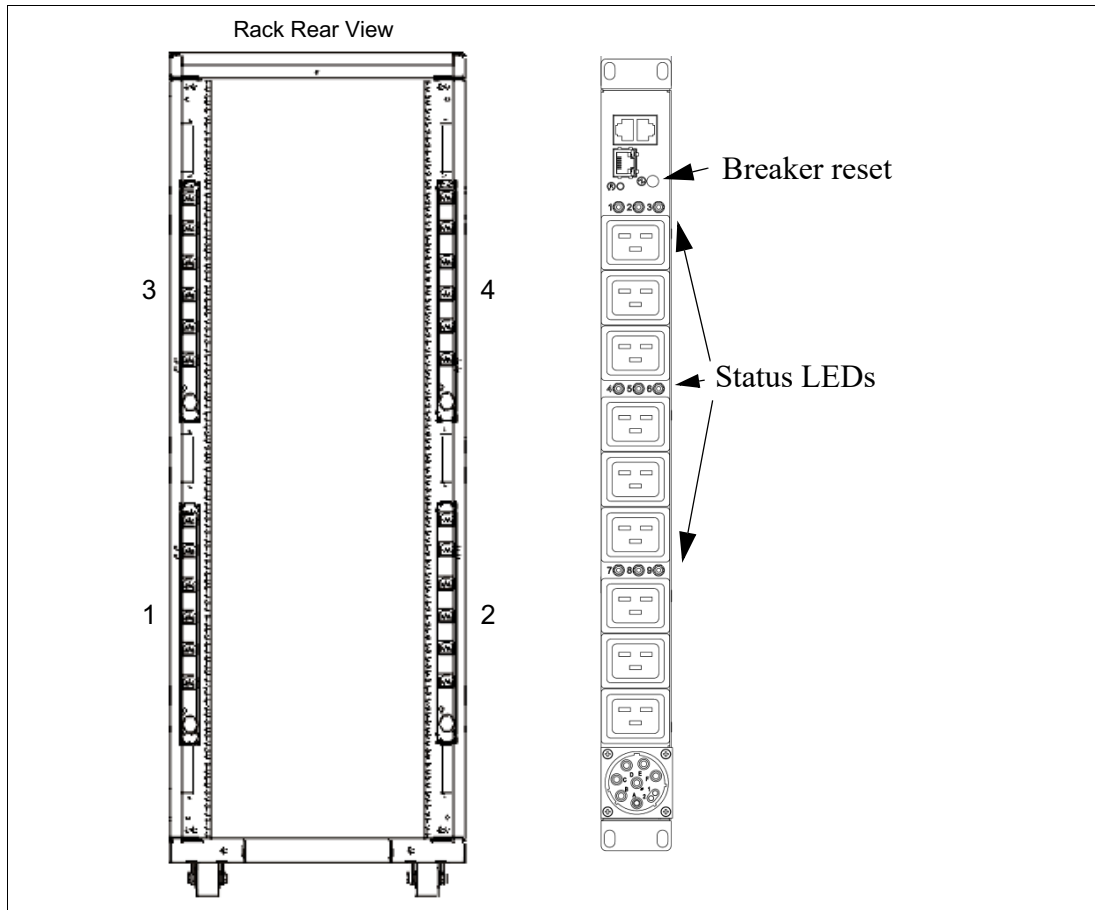

Figure 1-14 Power distribution unit placement and view
- ▶ Up to four PDUs can be mounted in the PDU bays (see Figure 1-14 on page 31), but others can fit inside the rack. For more information, see 1.6.7, “The AC power distribution unit and rack content” on page 29.
Four PDUs can be mounted vertically in the back of the S42, T00, and T42 racks. Figure 1-14 shows the placement of the four vertically mounted PDUs. In the rear of the rack, two more PDUs can be installed horizontally in the T00 rack and three in the S42 and T42 rack. The four vertical mounting locations are filled first in the T00, S42, and T42 racks.